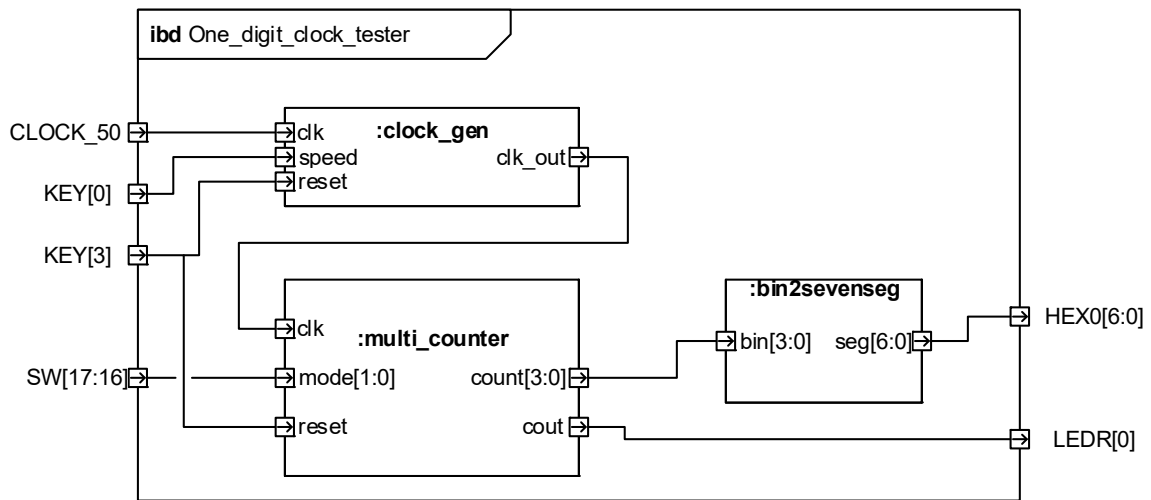

Fig. 2: One digit clock.
- a) Design a new `clock_gen` component that generates a pulse every second when “speed” is ‘1’ and every 5 millisecond when “speed” is ‘0’. The pulse must be one 50MHz clock pulse wide. Connect the `clk_out` output of `clock_gen` to the “clk” input of the `multi_counter` component as shown in figure 2.